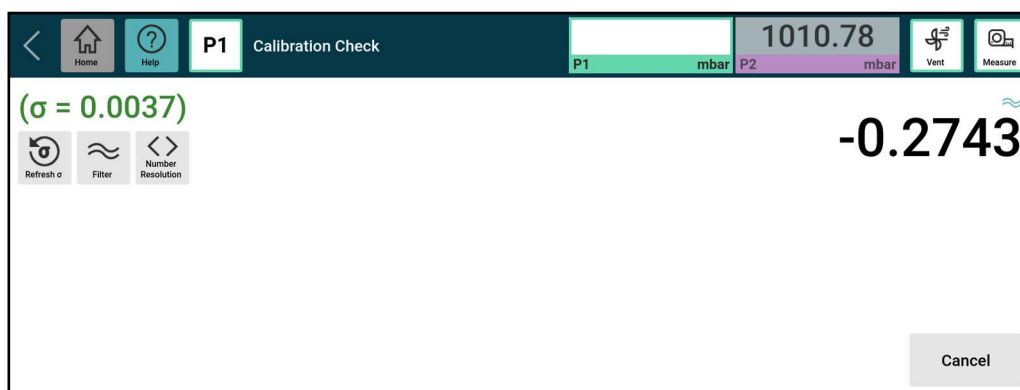

Figure A-9: Calibration Check Screen
- **Calibration Check** - opens the **Calibration Check** screen. See Figure A-9.
Figure A-9 shows the **Calibration Check** screen that you use to check (not calibrate) a sensor. To find this screen, select the **Settings** icon, then **Calibration** and enter the calibration PIN, then select **Sensor Correction** and select the sensor to be calibrated. Finally select **Calibration Check**.